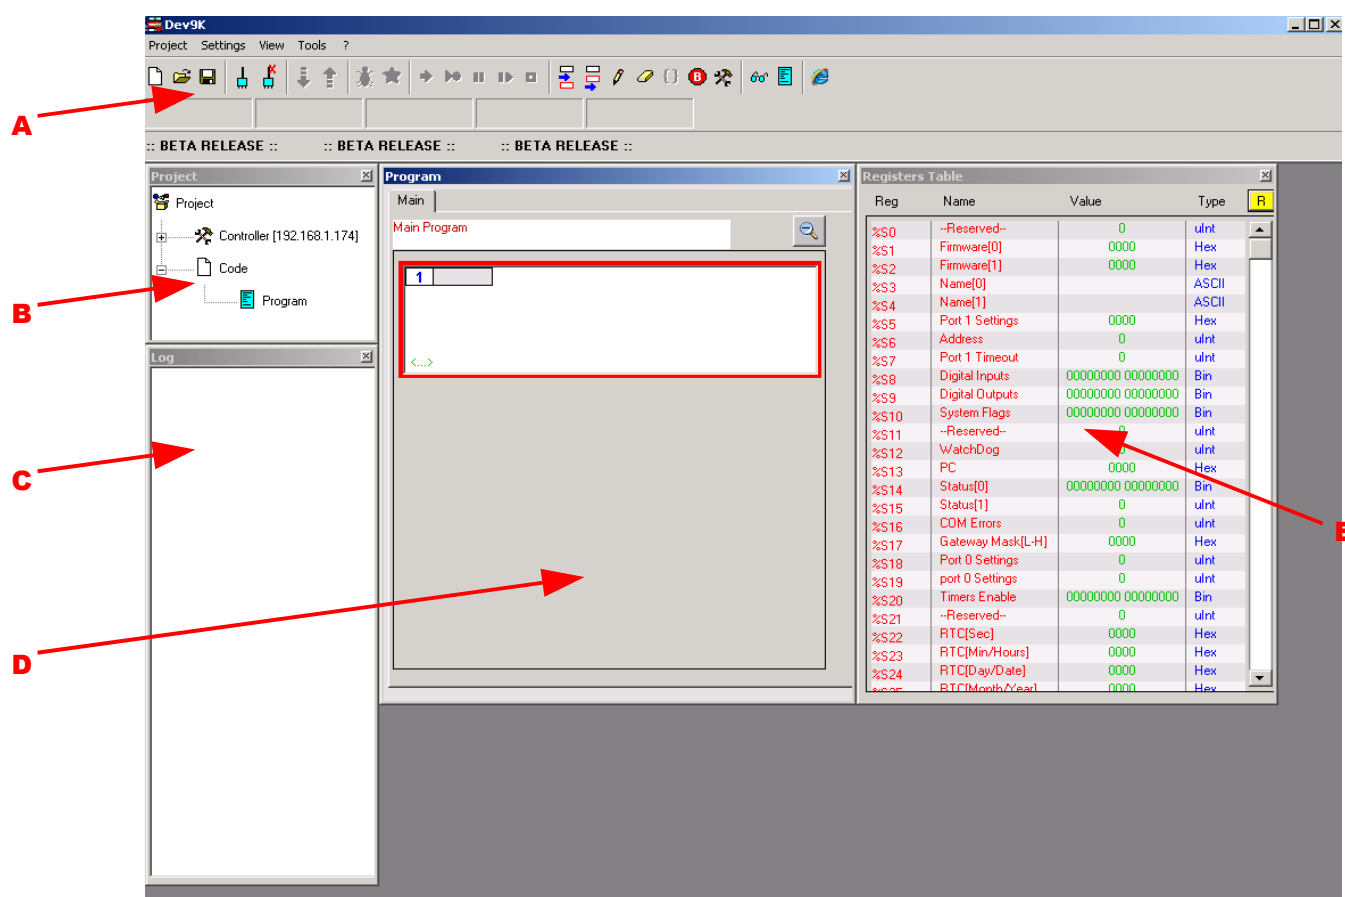

Fig. 1.1
- The Menu bar, the Tool bar and the Status bar (Fig.1.1-A)
- The Project tree (Fig.1.1-B)
- The Log window (Fig.1.1-C)
- The Main Program window (Fig.1.1-D)
- The Registers Table (Fig.1.1-E)
- “Project”: contains the list of the design properties (Fig.1.1-B).
- “Main Program”: in this window it is possible to insert the Function Blocks to generate the Program. For a new Project this window contains a blank Function Block. (Fig.1.1-D).
- “Registers Table”: contains the list of Controller's Registers (Fig.1.1-E).